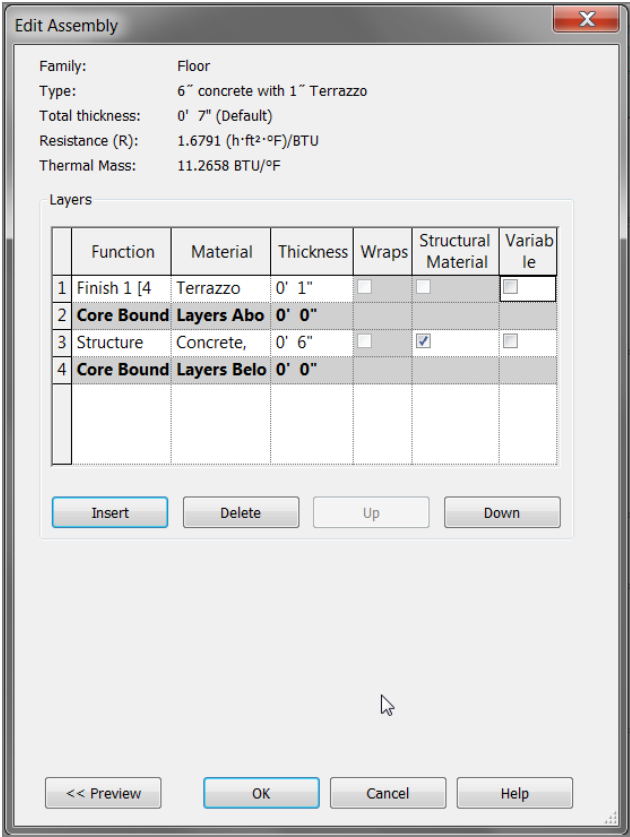

FIGURE 6.24: The completed layers for the floor system
10. In the Thickness column, enter 1" (25mm). Imperial users, make sure you're typing 1 inch and not 1 foot (see Figure 6.24).